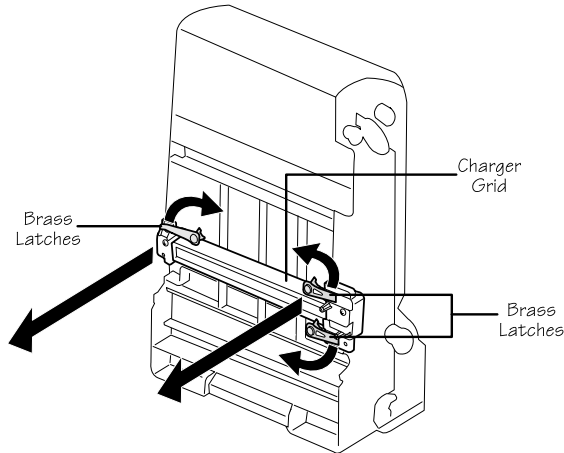

Fig. 6.12 Open Charger Unit Brass Latches
5. Locate the three brass-colored latches, which hold the charger unit in place. Then, swing each latch to the side to free the charger unit (fig. 6.12).
6. Grasp the green handle on the end of the charger unit and lift the unit out of the cartridge (fig. 6.12). Then, place the OPC belt cartridge in its protective bag or a dark area to protect it from light and set it aside until you are ready to reinstall it.